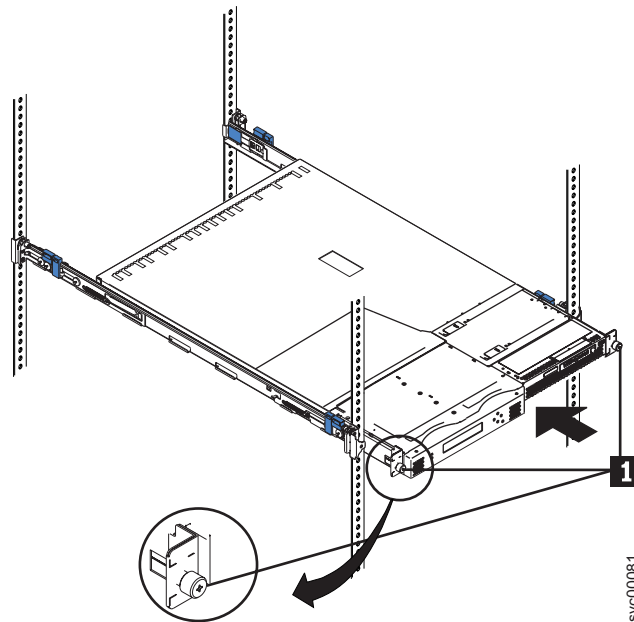

Figure 26. Sliding the SAN Volume Controller 2145-8F4 into the rack
2. Latch the two latches on the front of the rack to attach the node to the rack. (**1** in Figure 26 on page 49).
Note: The front of the rail assembly looks different from the front, as you can see in Figure 26 on page 49.